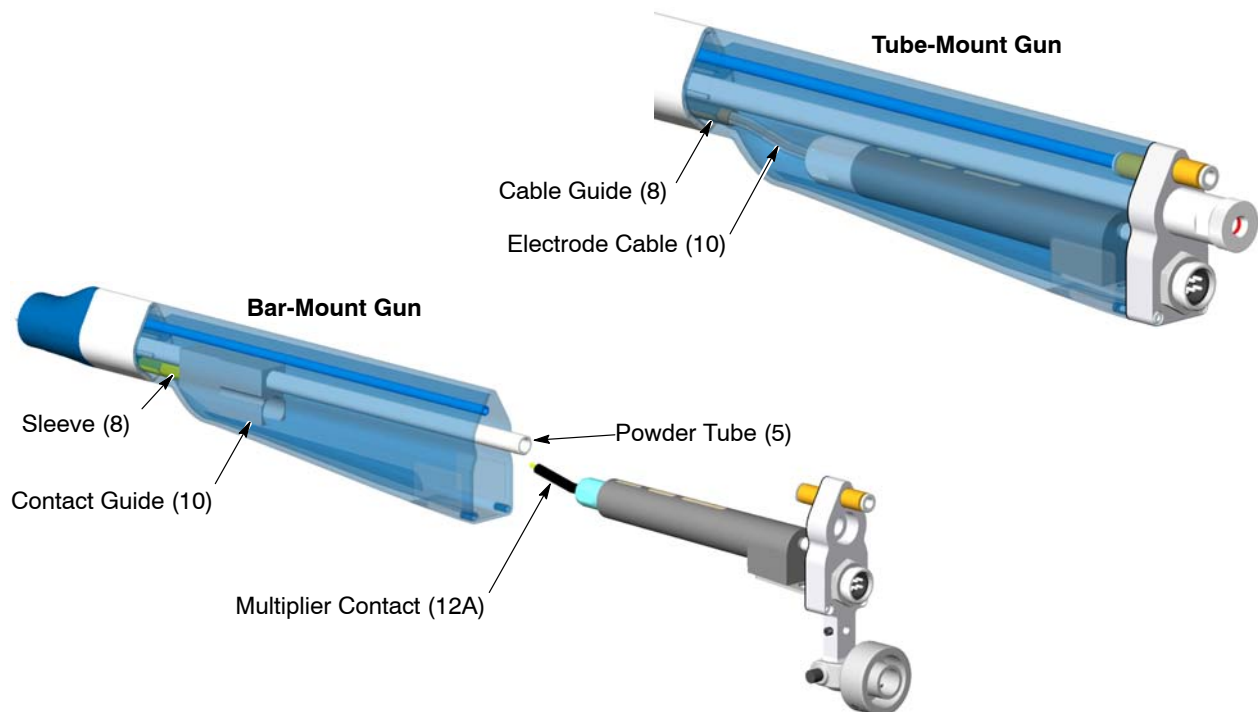

Figure 35 Multiplier Installation: Step 6
Bar-Mount Guns: See Figure 35. From the open end of the multiplier housing, install the contact guide on the powder tube. Push the contact guide into the housing until it seats on the sleeve (8). The contact should be visible in the open end of the contact guide when properly installed.
Tube-Mount Guns: See Figure 35. When mating the heat sink/multiplier assembly to the housing, make sure the electrode cable (10) slides freely through the cable guide.
Bar-Mount Guns: See Figure 35. Make sure the tip of the multiplier contact (12A) slides into the contact guide (10) inside the housing.